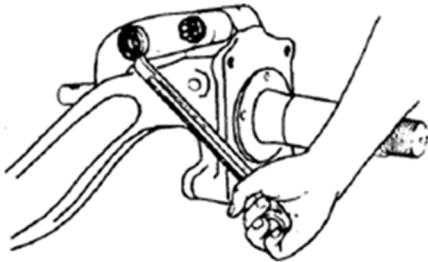

Figure 3-12.
- 1) Removing the brake bar (Figure 3-12).